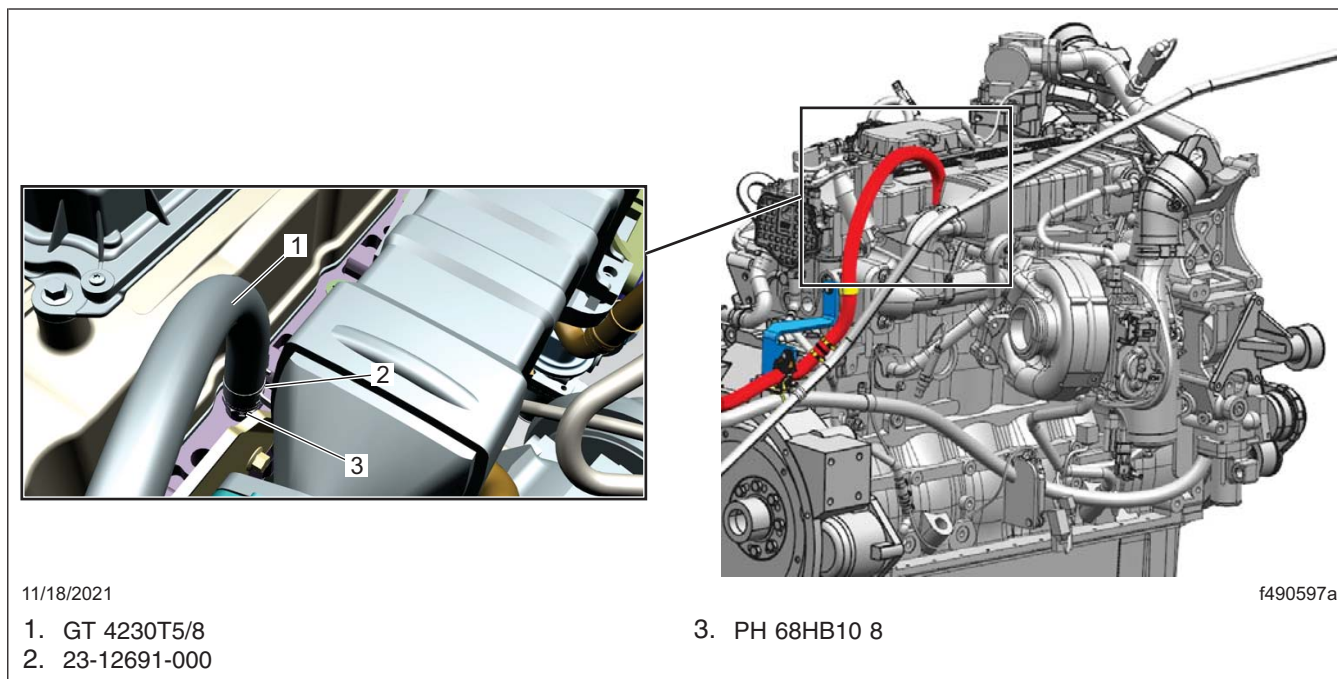

Fig. 3, New DEF Coolant Supply Soft Line Engine Fitting
12. Install the fitting adaptor on the engine coolant supply port. Tighten the adaptor 37 to 45 lbf-ft (50 to 61 N·m). See **Fig. 3**, item 3.
14. Fit the clamp to the hose, and install the hose on the engine fitting. See **Fig. 3**.